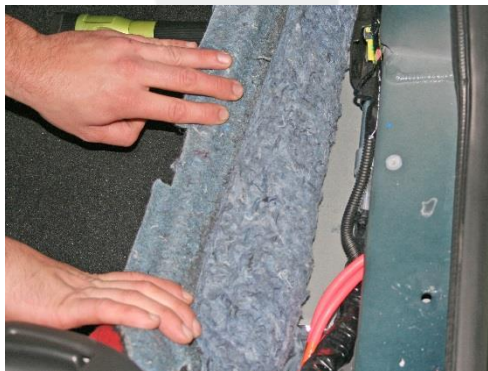

Figure 5
3. Working in the RH sill area, peel the carpet inboard to expose the RH main harness (Figure 5).